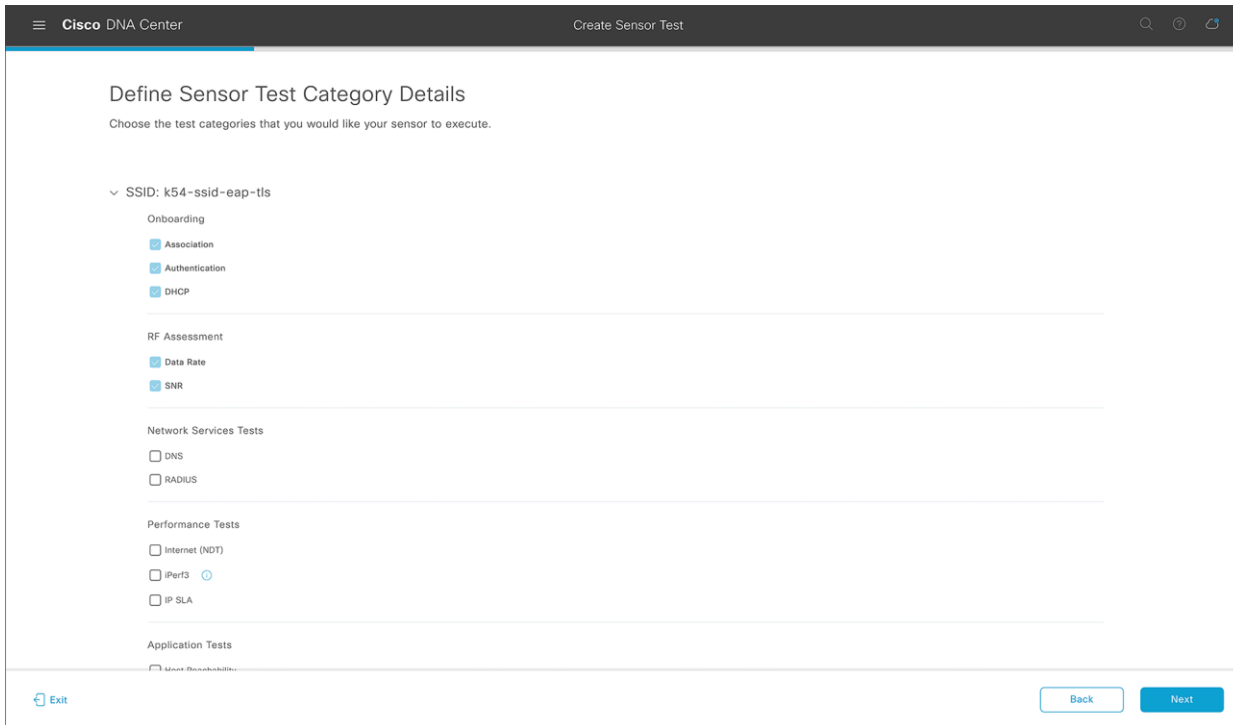

Figure 71.
5. Select the types of sensor tests that you would like to be part of this test template (Figure 71).